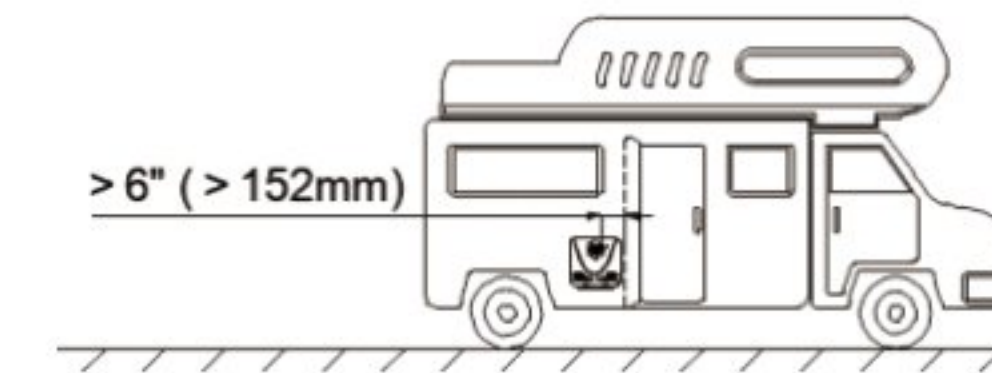

Figure 12
- This appliance should be installed in a place where the appliance front cover will not be covered or blocked by the RV door. If the condition is limited, the distance between the appliance installation area and RV door must be restricted to provide at least 6" (152 mm) between the venting and air inlet holes of water heater and the RV door when the door is opened - refer to Figure 12